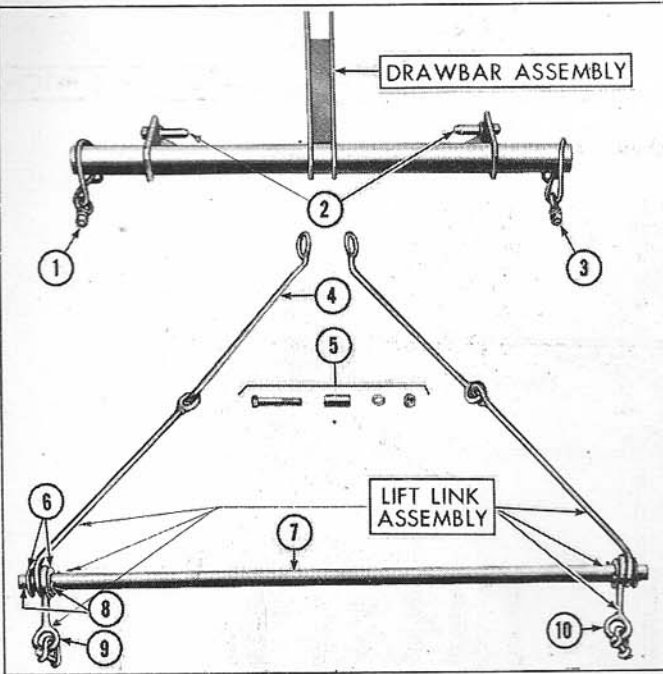
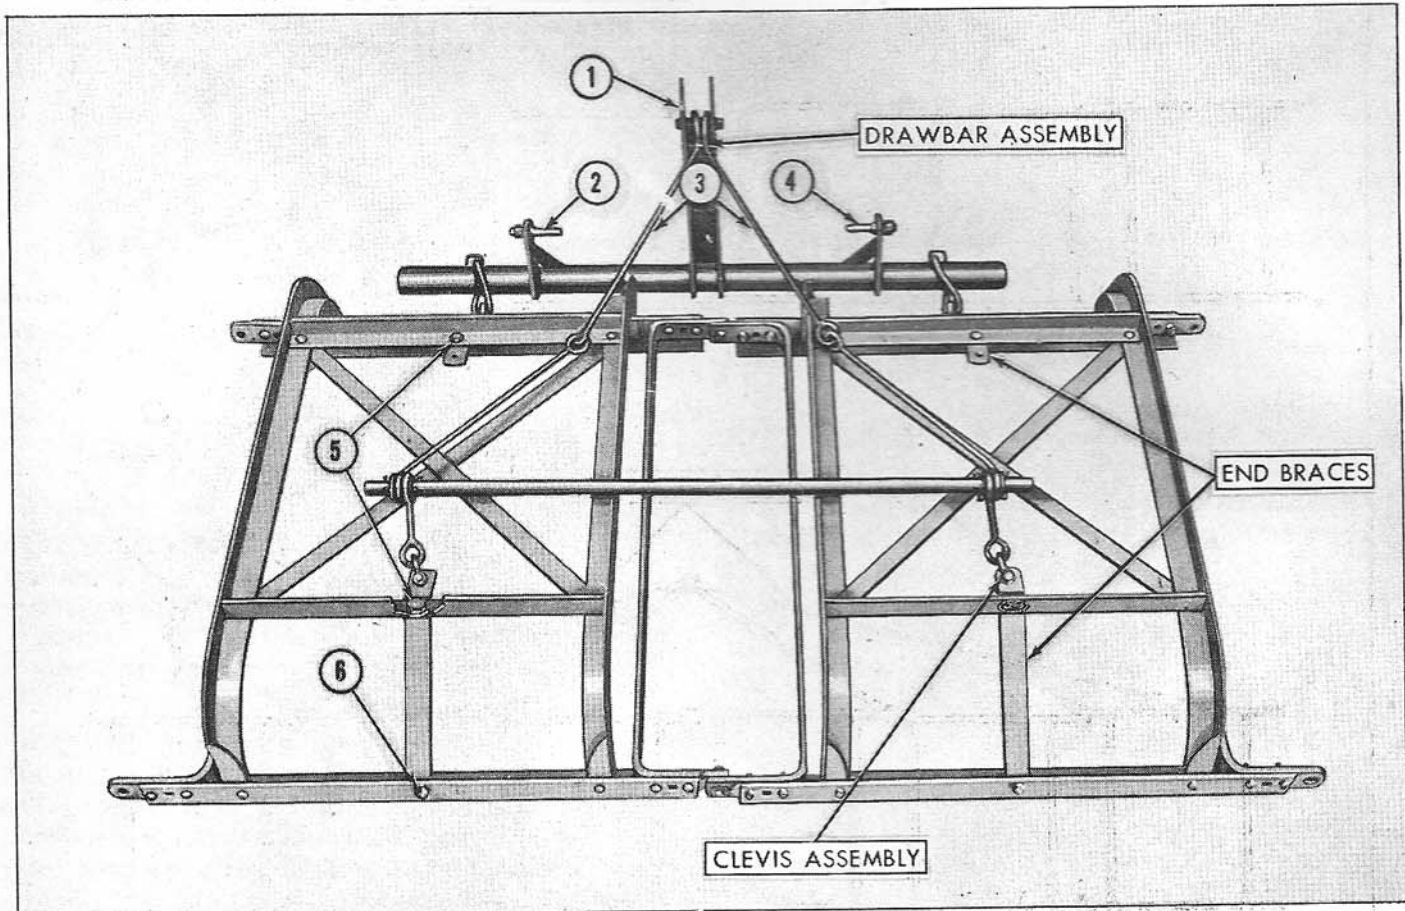

Figure 6
Figure 7
1. Bolt an end brace, Figure 7, to the rear of the frame on each rotary hoe section with two 7/16" x 1-1/4" hex head bolts, lock washers and nuts, as shown at (5), Figure 7.
2. Bolt an end brace to the front of the frame on each rotary hoe section with a 5/8" x 1-1/2" hex head bolt, lockwasher and nut, as shown at (6), Figure 7.
3. Install the link pins (2), Figure 6, in the drawbar assembly using the two 7/8" lockwashers and hexnuts provided.
4. Assemble the lift link assembly by positioning the link assembly (4), Figure 6, the link (9) and the flat washers (6) on the rod (7), as shown, and secure with cotter pins (8). Install the link assembly and link on the other side of the rod in the same manner.
5. Position the drawbar assembly in front of the sections as shown in Figure 7.
6. Attach the eye bolts (1) and (3), Figure 6, to the front of each section with the 5/8" washer and nut provided as shown in Figure 7. Note that the eye bolts also secure the front end brace to the frame in each section.
7. Position the lift link assembly on the sections as shown in Figure 7. Attach the links (9) and (10), Figure 6, to the rear end brace of each section with the shackle assembly provided.
8. Attach the forward end of the link assemblies (3), Figure 7, to the drawbar assembly as shown, with the 5/8" x 3-1/2" hex head bolt, spacer, lockwasher and nut (see 5, Figure 6).
9. Attach the tractor lower lift links to the link pins (2) and (4), Figure 7, and secure with the linch pins provided. At-